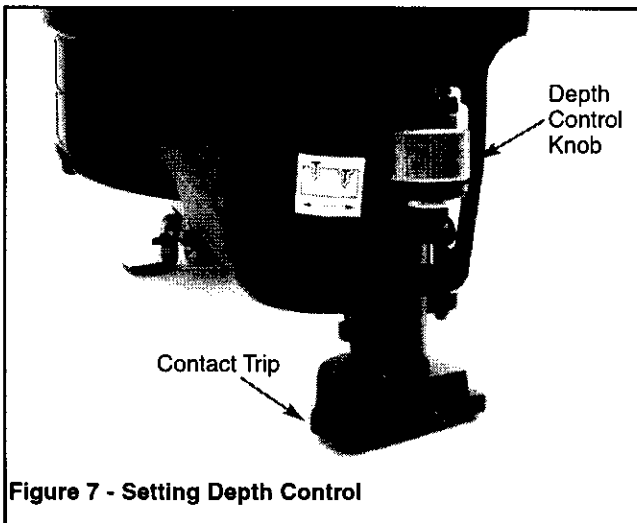

Figure 7 - Setting Depth Control
Refer to Figures 7 through 9 (page 5).
- The air tool is equipped with contact trip safety mechanism that disables tool unless contact trip (Fig. 7) is pushed against work. Hold body firmly and press contact trip on workpiece where fastener is to be applied. Pull trigger to drive fastener into workpiece.
The contact trip may be adjusted up or down to vary the driven depth of the fastener. To adjust, rotate depth control knob (see Figure 7) to raise or lower contact trip to desired setting.